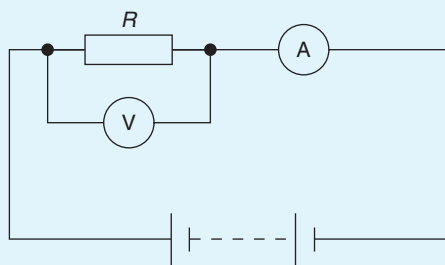

Figure 5.44
11. If in the circuit shown in Fig. 5.44, the reading on the voltmeter is $5\ \text{V}$ and the reading on the ammeter is $25\ \text{mA}$, the resistance of resistor R is: